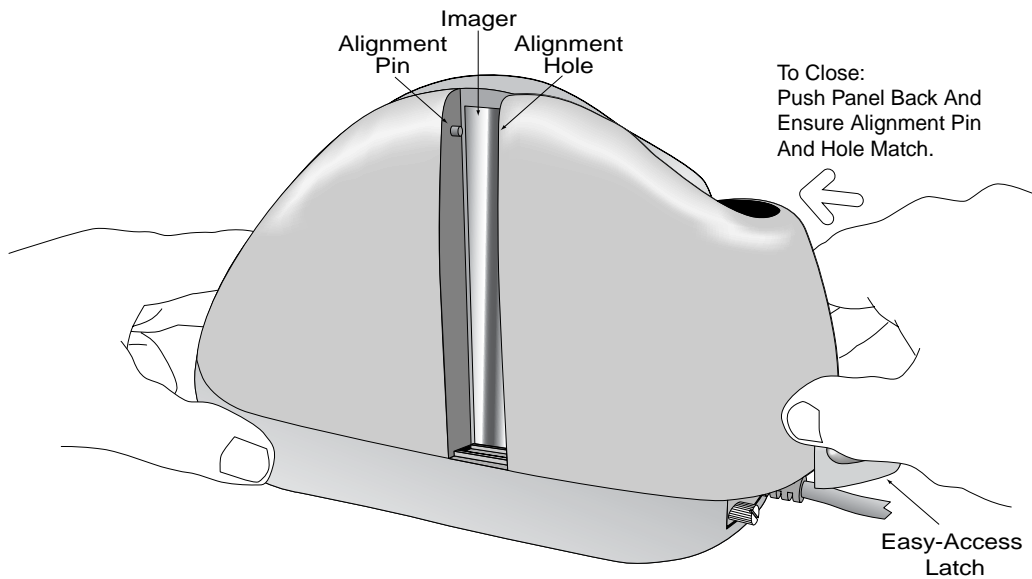

Figure 3-7. Closing the Unit
1. Hold the unit as shown in Figure 3-7. Push the covers together while ensuring alignment of the pin and hole.